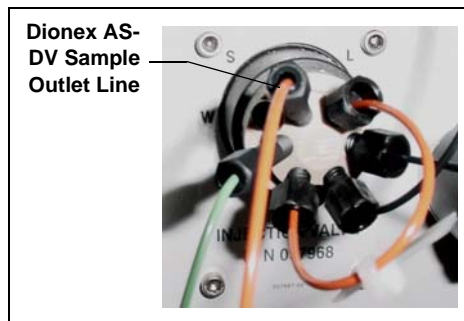

Figure 5. IC System Injection Valve
4. Connect the outlet sample line from the Dionex AS-DV to port **S (5)** on the injection valve (see Figure 5).